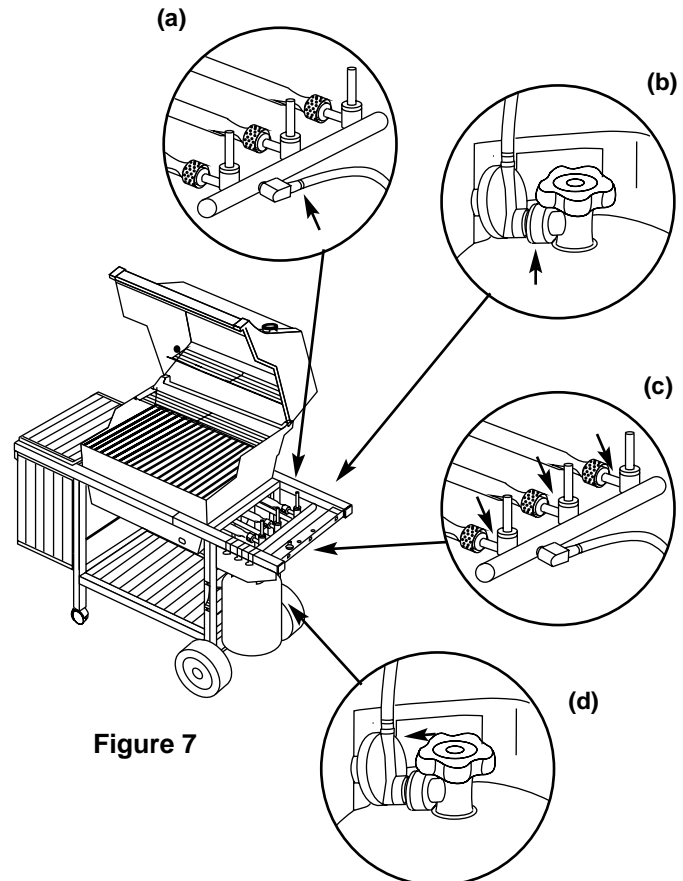

Figure 7
- Valves to manifold connections. Figure 7 (c).
- The hose to regulator connection. Figure 7 (d).